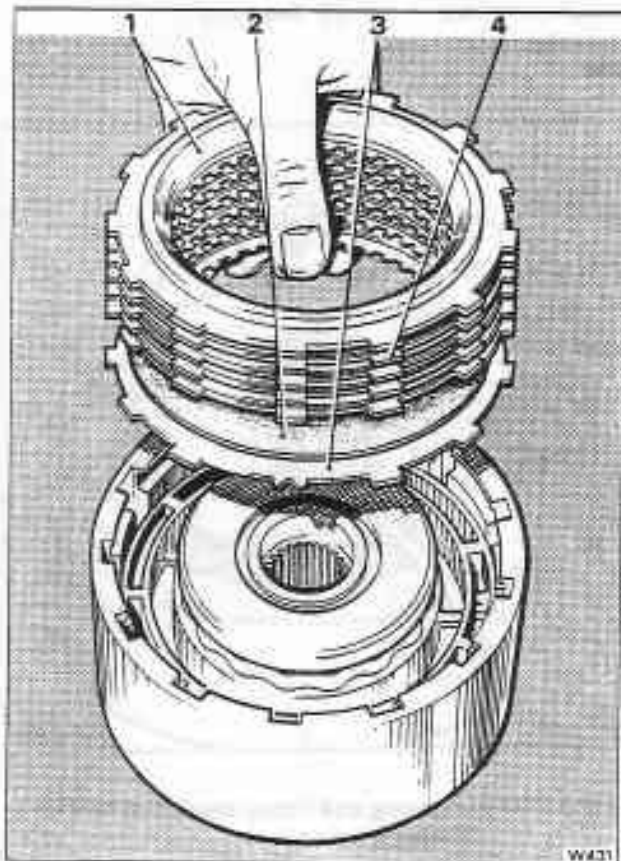

Fig. T19-10 Fitting the direct clutch plates
9. Lubricate the four flat steel clutch plates, five composition faced plates and one waved steel plate with clean transmission fluid. Then fit the plates into the clutch housing (see fig. T19-10). Commence with the waved steel plate and then alternate composition and steel plates.